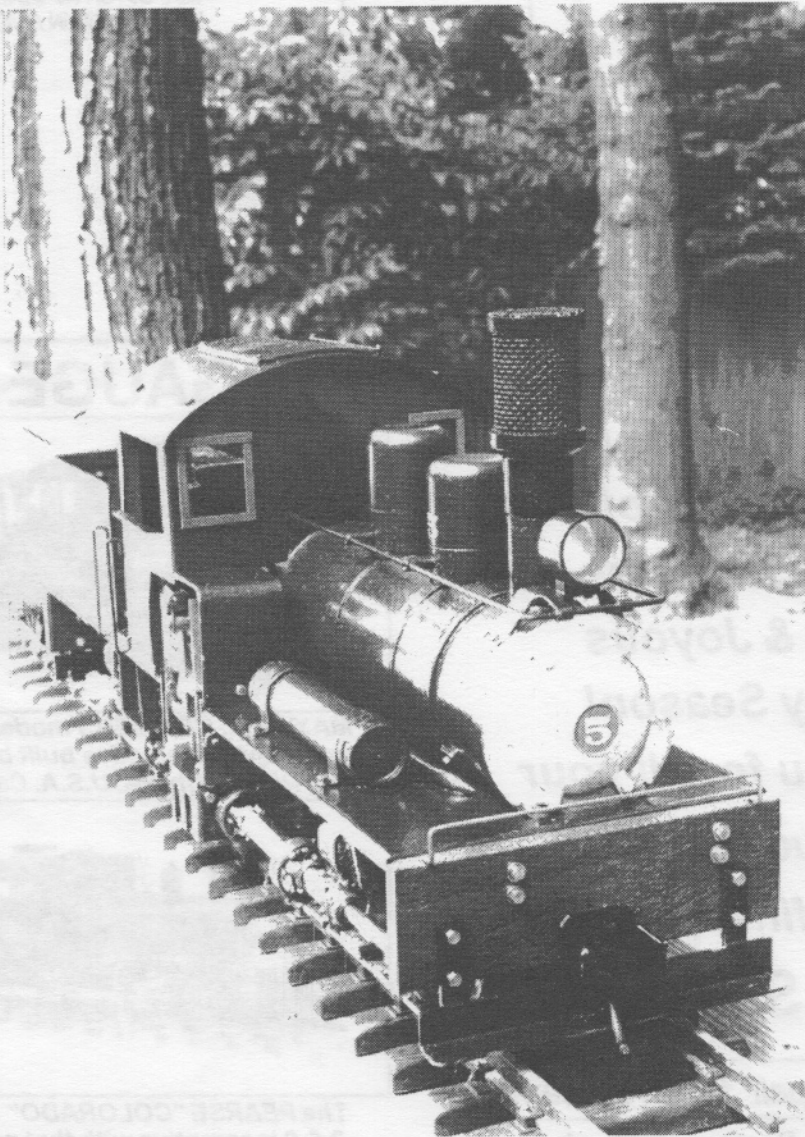

FIGURE 1
1) Cut a 1/8" wide ring off the large portion of the reduction fitting (see Figure 1).
2) Cut off all but about 3/16" of the large part of the fitting, leaving 1/8" depth inside (Figures 1 and 2).